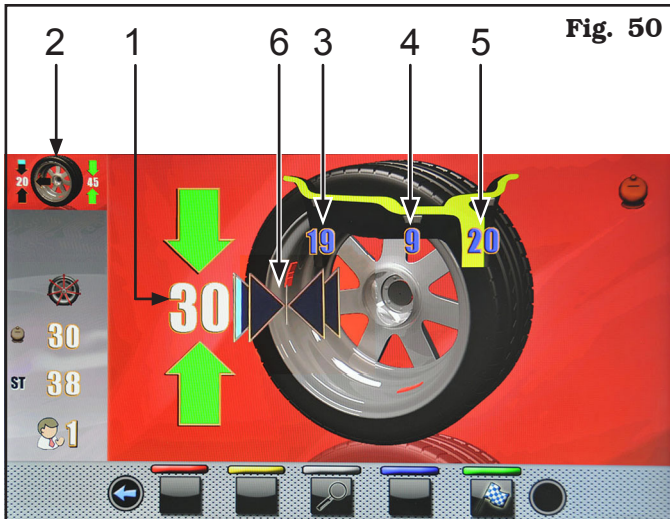

Fig. 50
Dra yr mätstaven tills pilarna (**Fig. 50 ref. 6**) blir gröna.
OMEDELBART EFTER ATT HA VALT PROCEDUREN ECO-WEIGHT, GÅR DET ATT I FÖRVÄG KÄNNA T5ILL DE BÅDA OBALANSERNA DYNAMISK OCH RESTERANDE STATISK, FÖR ATT VÄRDET OM DET ÄR LÄMPLIGT ATT GÅ VIDARE (SE FIG. 50).